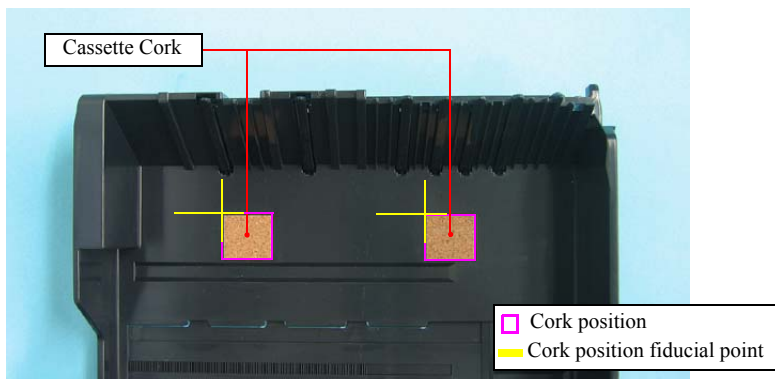

Figure 4-21. Removing the Cassette Assy (4)
- When attaching the Cassette Corks, first align their one corner with the fiducial point shown in Figure 4-21.